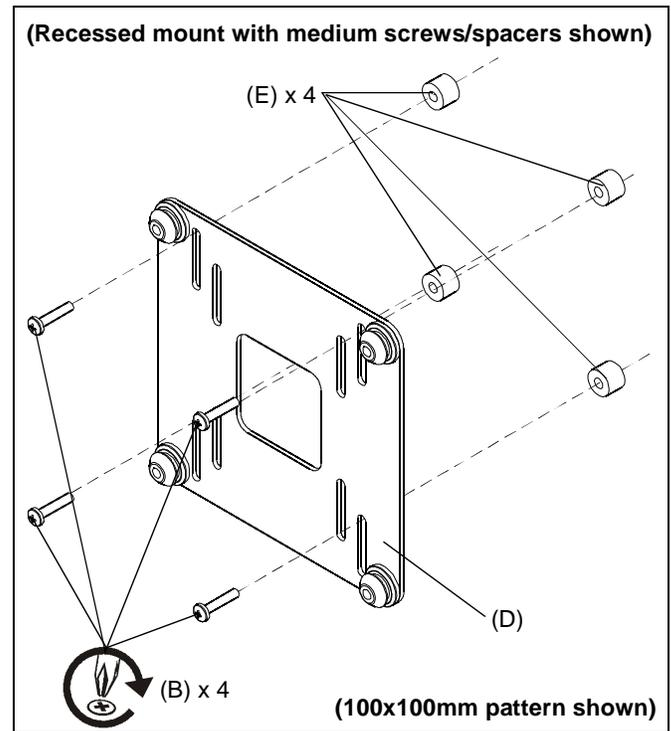

Figure 2
Secure bracket to display using four M4 x 20mm (B) or M4 x 30mm (A) Phillips cap head screws and four nylon spacers (E or F), as necessary. (See Figure 2)